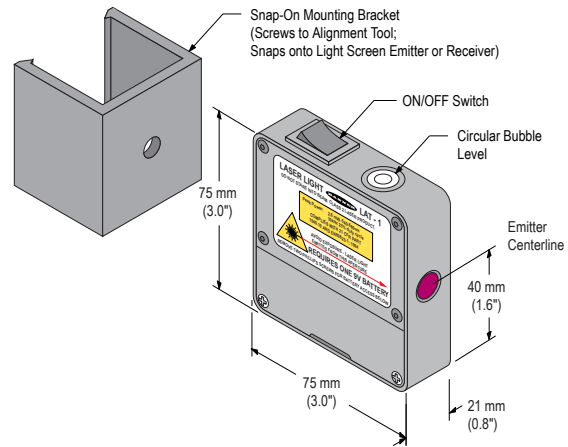

Figure 2. Dimensions
4. Standing behind the Alignment Tool, view the retroreflective target from behind the sensor (see Figure 2). Adjust either or both sensors and/or the corner mirrors as needed to place the laser image at the desired spot on the opposite sensor.